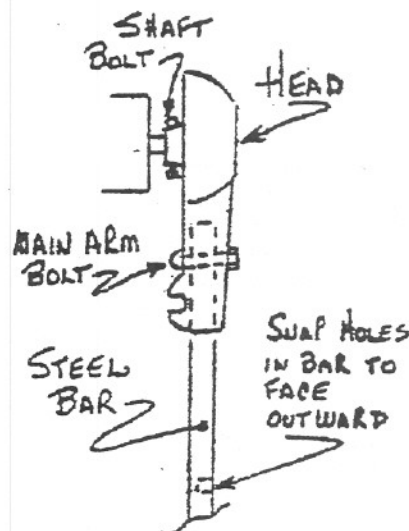

FIG. 2
1. Measure distance 'A' ( Fig.2) and note distance
THE SINGLE TORSION SPRING IS WOUND BY TURNING THE HEAD CASTING CLOCKWISE (FACING FORWARD), USING THE STEEL SUPPORT ARM BAR AS A LEVER (SEE FIG. 1). INSERT THE BAR INTO THE HEAD AND SECURE IT IN PLACE WITH  $1\frac{1}{2}$ " BOLT, LOCKWASHER AND CAP NUT (SEE FIG. 2). BE SURE THAT THE BAR IS ALL THE WAY INTO THE HEAD SO THAT THE BOLT HOLES ALIGN.